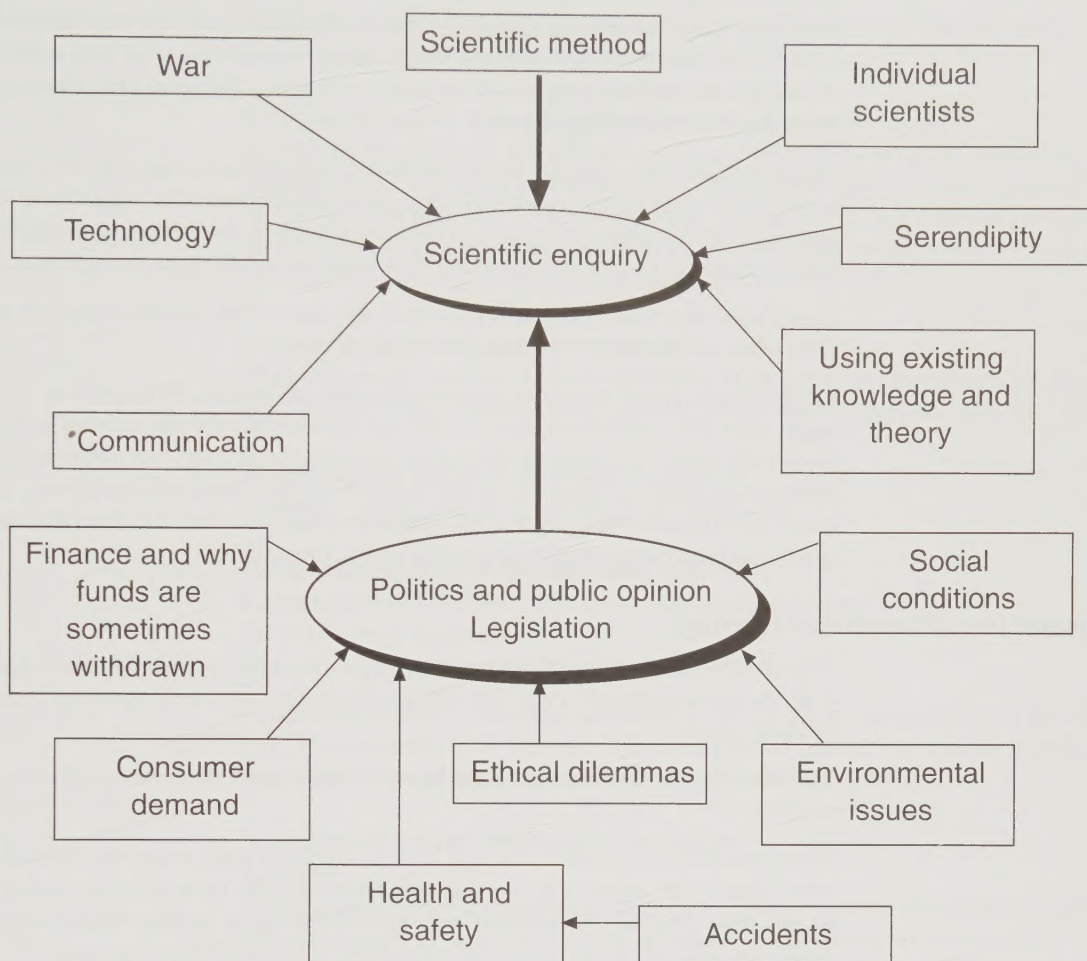

Figure 1 The factors influencing the nature of scientific ideas– scientific enquiry and the advancement of science
At the start of the 21st century secondary education yet again underwent changes. These included the introduction of new curricula at all levels in England, Wales and Scotland and the Northern Ireland National Curriculum undergoing review. With more emphasis on cross curricula topics such as health, safety and risk, citizenship, education for sustainable development, key skills, literacy, numeracy and ICT, chemistry teachers must not only become more flexible and adaptable in their teaching approaches, but keep up to date with current scientific thinking. The major change to the science 11–16 curricula of England and Wales was the introduction of ‘ideas and evidence in science’, as part of Scientific Enquiry. This is similar to the ‘developing informed attitudes’ in the Scottish 5–14 Environmental studies, and is summarised in Figure 1.
- Resources to enable ideas and evidence in science to be taught within normal chemistry or science lessons. There is a need to combine experimental work with alternative strategies, if some of the concerns shown in Figure 1, such as social or political factors, are to be taught. This can be done for example, by looking at the way in which scientists past and present have carried out their work and how external factors such as a political climate, war and public opinion, have impinged on it.